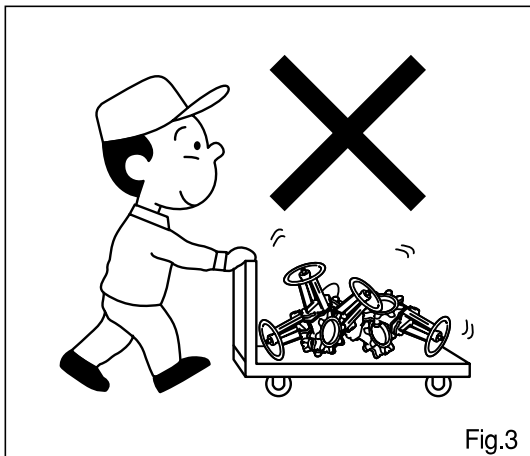

Fig.3
- **Cares when handling** : Loading and shipping should be done while the valve is properly packed. Arrange the valve so that valve does not fall during transportation. In case the valve is not properly packed, arranged properly and place a cover on top in order to avoid any unnecessary force or dust. (Fig.3)